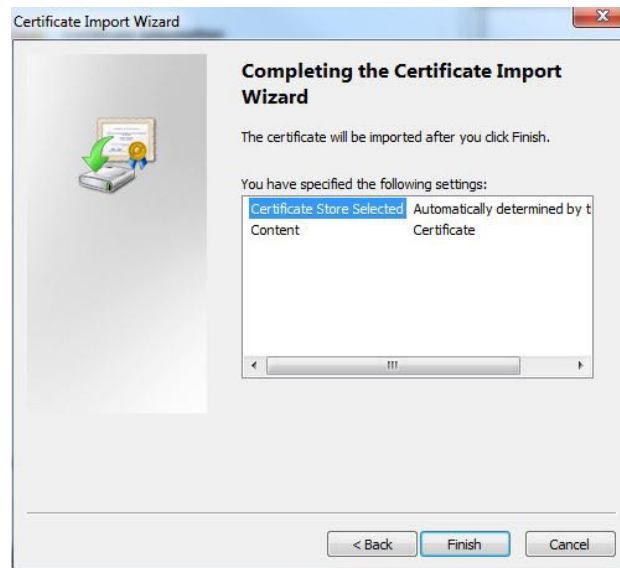

Figure 5: Certificate Import Wizard – Confirming Import Settings.
6. The certificate wizard confirms the selected setting for certificate import. Click Finish (see Figure 5).